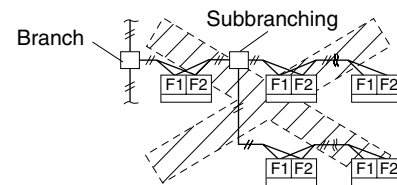

Fig. 15
4. Up to 16 branches are possible for unit-to unit cabling. No branch is allowed after first branch. (Refer to Fig. 15)